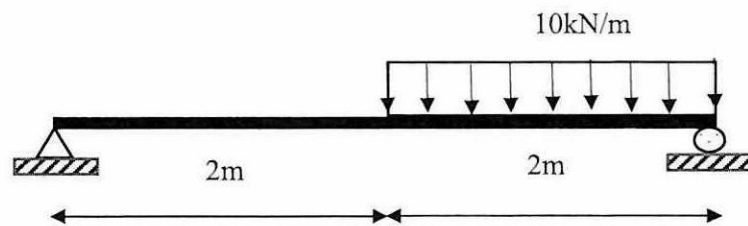

Figure Q3(b)
- (b) Beam AB as shown in **Figure Q3(b)** has a span of 4m. The beam is subjected to uniformly distributed load of 10 kN/m. Answer all questions (i) to (iii) below: